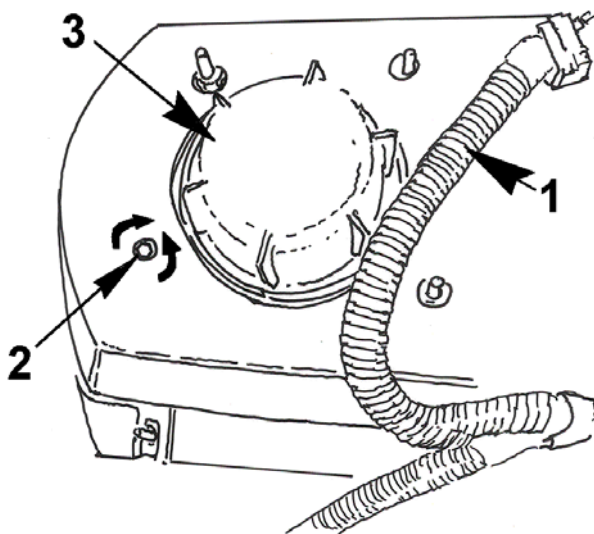

Figure 110 Headlight Adjustment
1. Locate adjustment control stem on rear of headlight housing (Figure 110, Item 2).